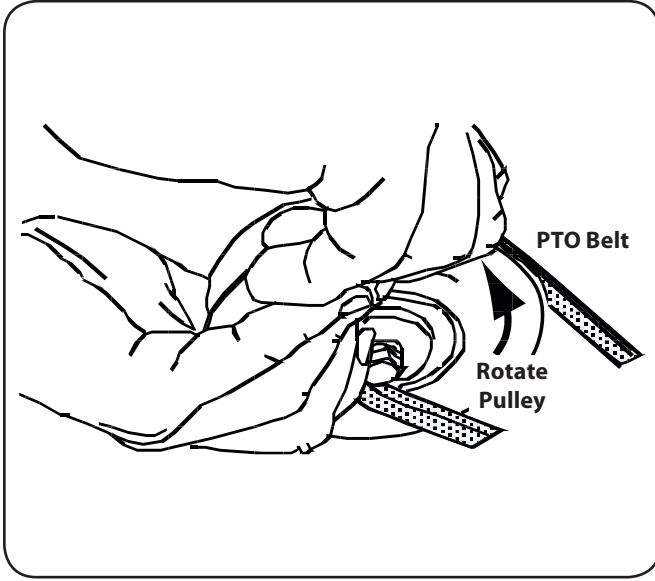

Figure 7-10
10. Pull the right side of the belt and place the narrow V side of the belt into the PTO pulley. See Fig. 7-10.
11. While holding the belt and pulley together, rotate the pulley to the left (See Fig. 7-10). Continue holding and rotating the pulley and belt until the belt is fully rolled into the PTO pulley.